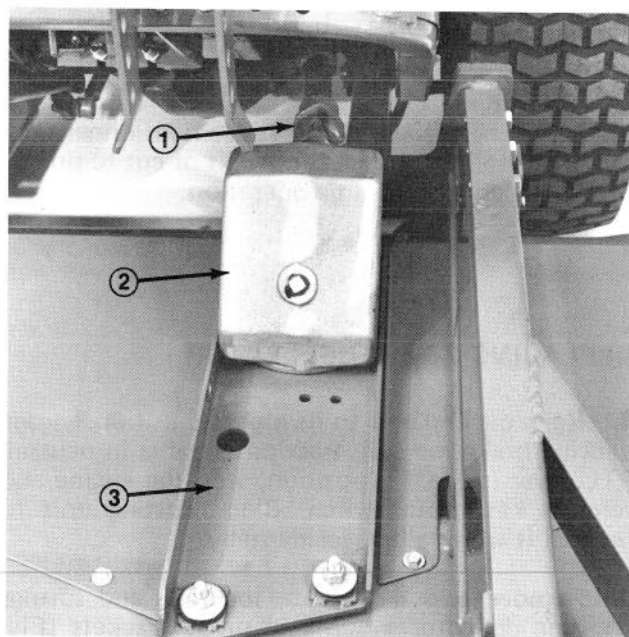

Figure 27
4. To install new belt, the gear box base must be removed. To do this, remove four nuts holding gear box base (Fig. 27).
6. Install gear box base with nuts (Fig. 27).